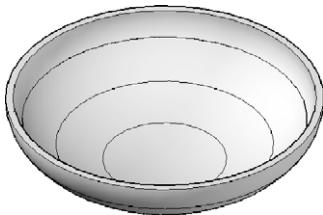

Fig. 12.21 Second example – **Revolve**
### Second example – Revolve (Fig. 12.21)
7. Place in **Visual Styles/Shades of Gray** (Fig. 12.21).